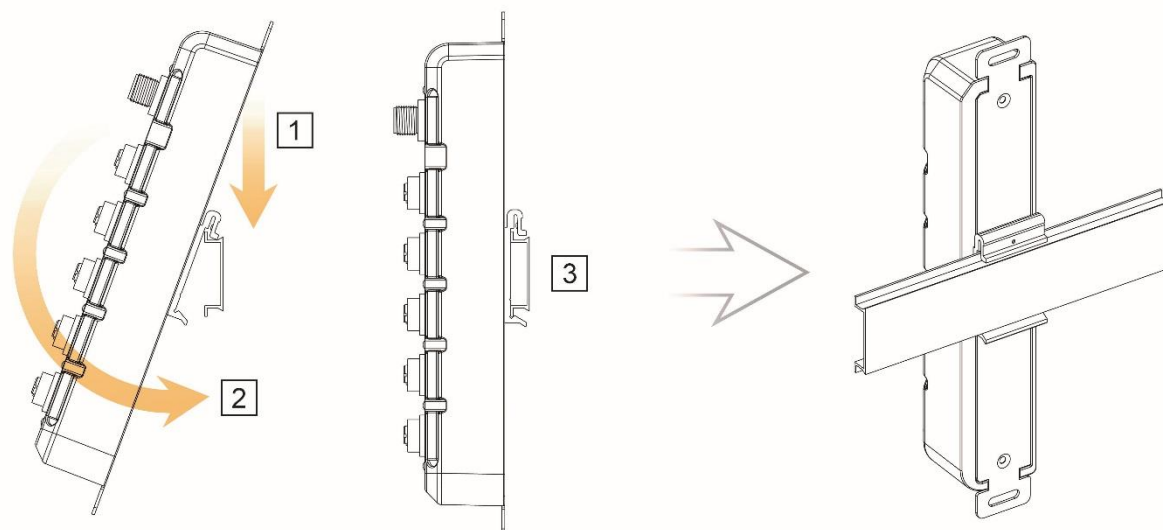

Figure 3.2
2. After the DIN-Rail bracket is installed on the rear side of the switch, see *Figure 3.2* to mount the switch.